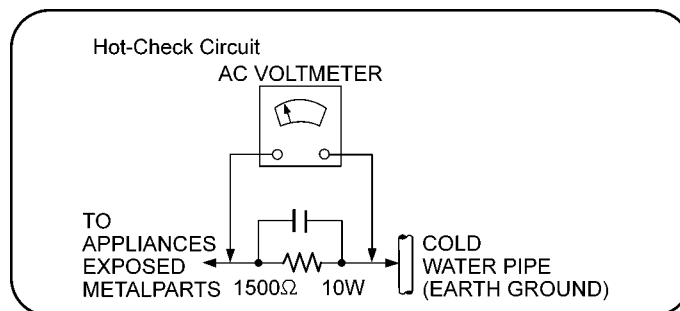

Figure 1
2. Connect a $1.5k\Omega$, 10 watts resistor, in parallel with a $0.15\mu F$ capacitors, between each exposed metallic part on the set and a good earth ground such as a water pipe, as shown in Figure 1.